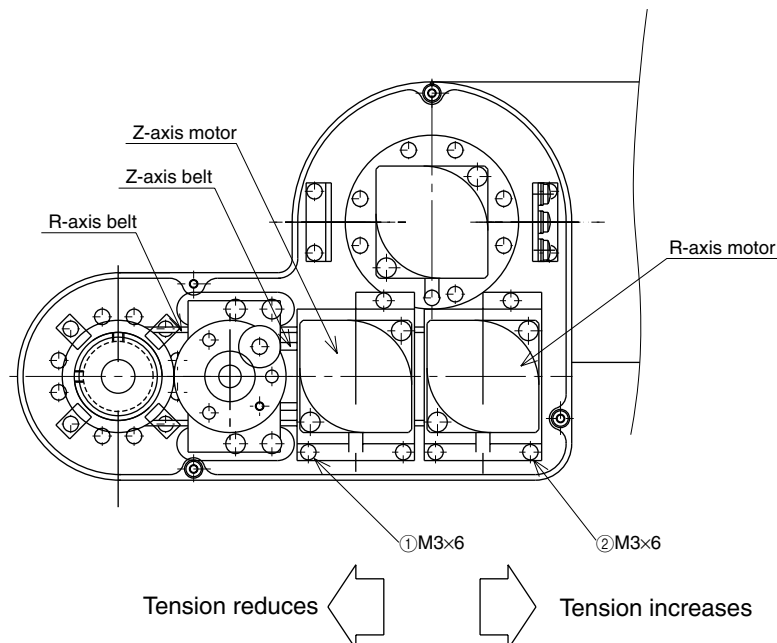

Fig. 4-12 R6YXCH250, R6YXCH350, R6YXCH400
1. Loosen the bolt 1 shown in Fig. 4-12.
1. Loosen the bolt 2 shown in Fig. 4-12.